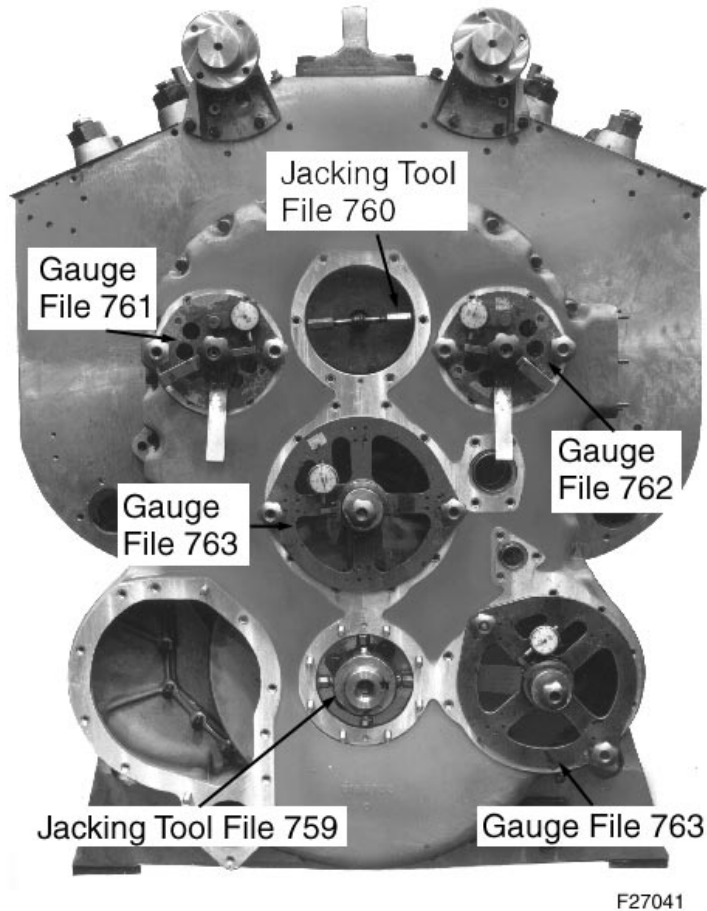

Figure 6-13. Accessory Drive Housing Alignment (8, 12, and 16-Cylinder)
6. Apply left-hand water pump alignment gauge to left pump opening (right bank) in housing so that gauge gear teeth mesh with the governor drive gear, Figure 6-13., on page 6-23, or the accessory drive gear on 20-cylinder engines.
10. Position jacking tool over the end of the accessory drive shaft until the adjusting nuts are in line with the accessory drive opening, Figure 6-13.
Adjusting nuts should be in a horizontal position, Figure 6-13.